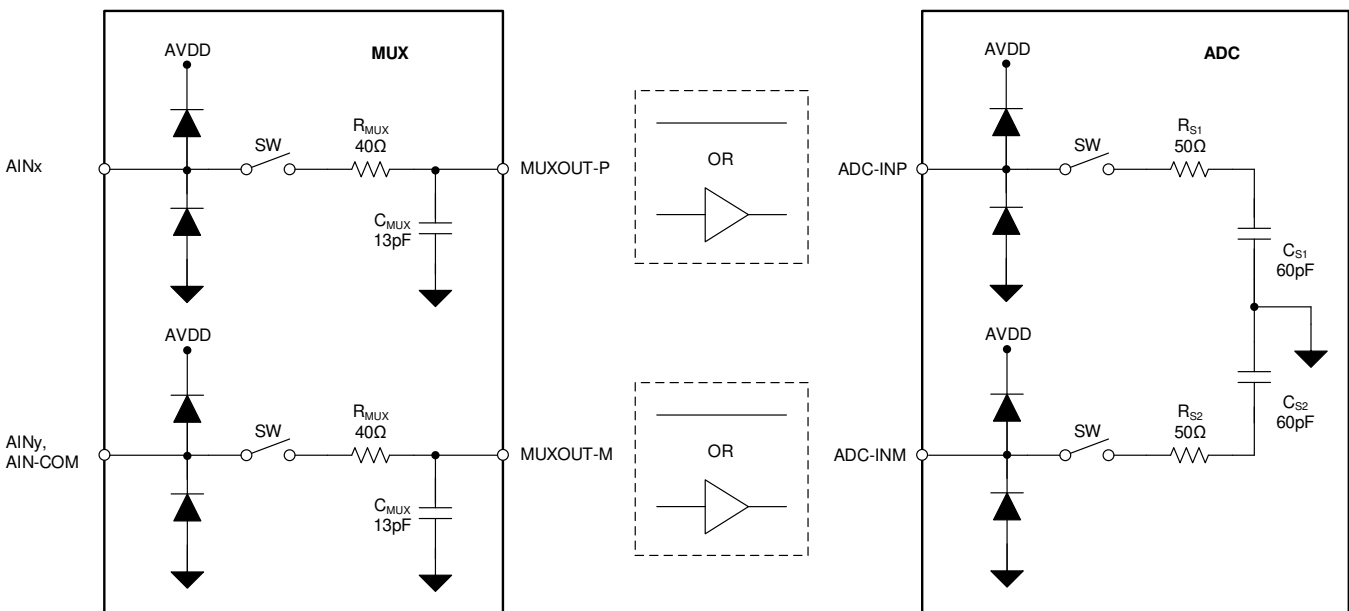

Figure 30. Input Sampling Stage Equivalent Circuit
Figure 30 shows the small-signal equivalent circuit of the sample-and-hold circuit. Each sampling switch is represented by resistance (R_{S1} and R_{S2} , typically 50 Ω) in series with an ideal switch (SW). The sampling capacitors, C_{S1} and C_{S2} , are typically 60 pF.